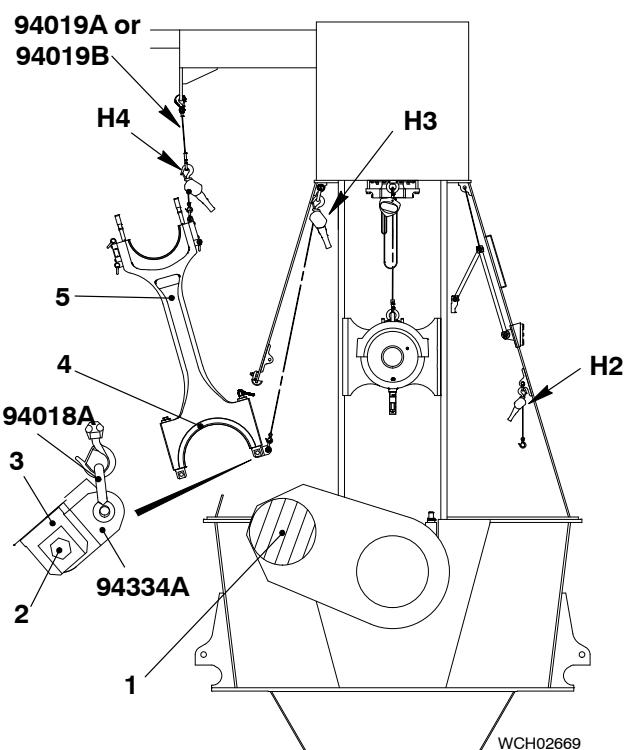
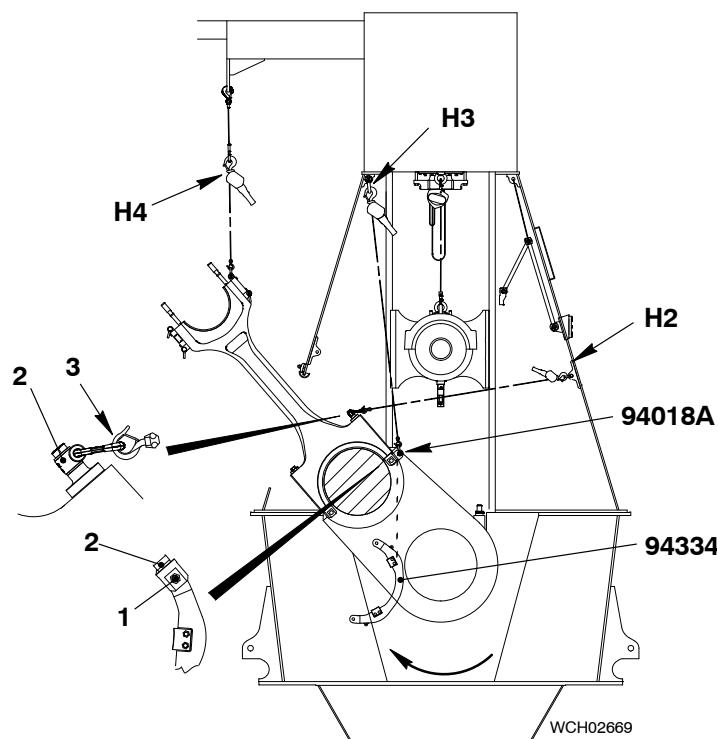

Fig. 12
Fig. 13
- 1) Clean the bearing shell (4, Fig. 12) and the crank pin (1).
- 2) Put oil on the bearing shell (4) and the crank pin (1).
- 4) Attach the manual ratchet (H2, Fig. 13) to the lug (3) on the top rod (2).
- 10) Attach the plate (94334) to the bottom of the rod (2) with the nut and bolt (1).